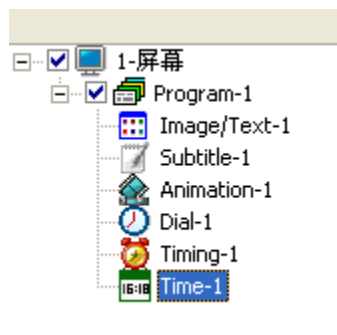

figure 3-21
- ◆ Time  :click time button, add new time area in the current screen, as shown in figure 3-21,set the time attributes as your require. More details about time attributes setting ,please check in “4.6 time attributes”